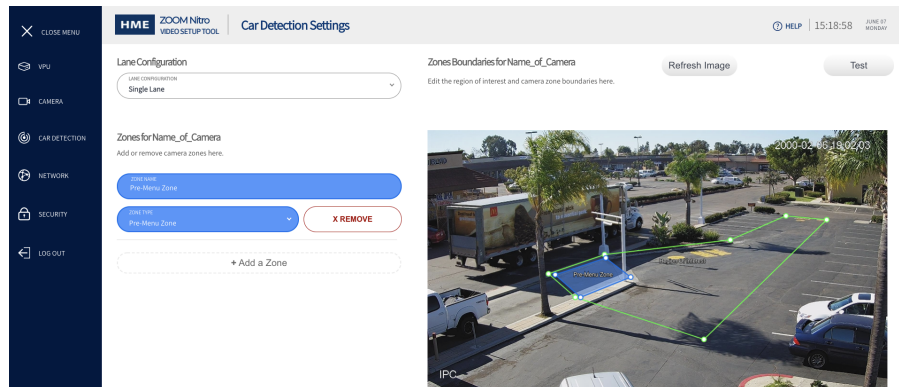

Fig. 6.4
5. Click on “+ Add a Zone” and the Pre-Menu Zone appears with a new bounding box (blue) in the image (the box will be yellow if it overlaps the ROI). Adjust the size and shape of this box as you did with the ROI to define this zone and click Save when you are finished. See Fig. 6.4.